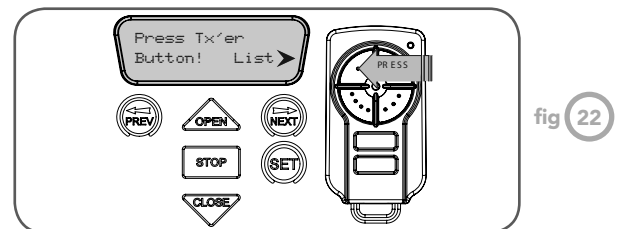

fig 22
2. Press the transmitter button you wish to use to operate the opener (e.g. button 1) (**Fig. 22**).